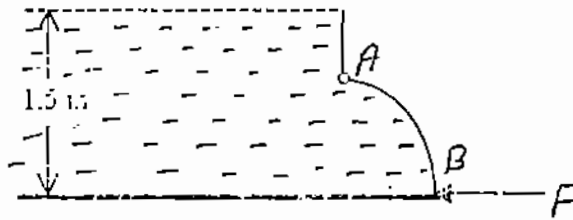

Figure 1
2. The gate AB shown in Figure 1 is hinged at A and is in the form of a quarter circle of radius 1 m. The width of the gate is 0.5 m. Find the force F required to hold the gate in position. Also find out the horizontal and vertical components of the hydrostatic force acting on the gate along with their line of action. (8)